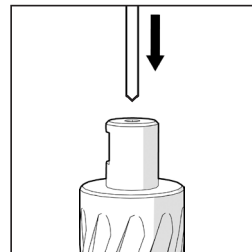

Fig. 7
- Insert the pilot pin into the cutter ensuring that it slides through the bore in the cutter smoothly. **(Fig.7)**